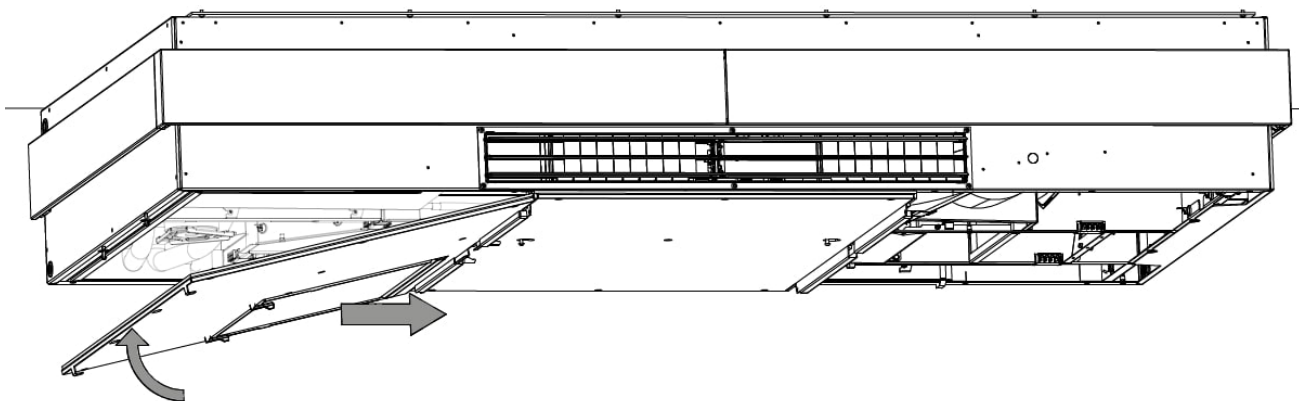
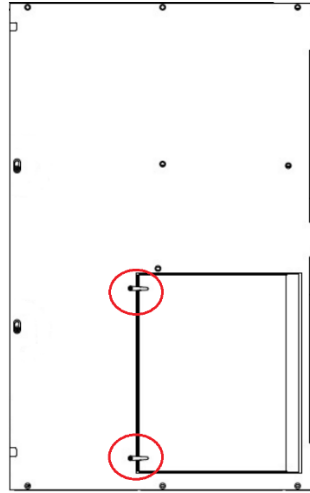

Figure 38: Lift the left-hand side plate onto the hinges
Figure 39: Filter-hatch hinges must be closed
6. Lift the left-hand side plate up and onto the hinges of the middle steel plate, see Figure 38 below. Make sure the hinges for the filter hatch are closed before you lift the steel plate, see Figure 39.